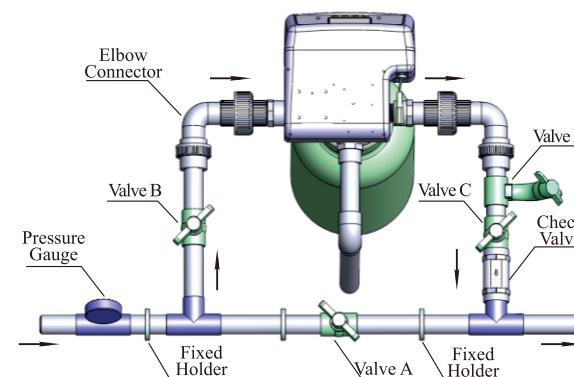

Figure 1-2
② Pipeline connection
- a. As Figure 1-2 shows, install a pressure gauge in water inlet.